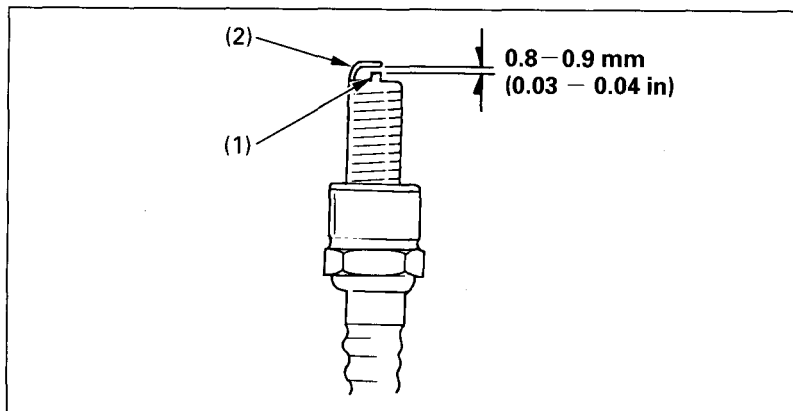

Fig. 4-16 (1) Center electrode (2) Side electrode
4. Visually inspect the spark plug electrodes for wear. The center electrode (Fig. 4-16) should have a flat tip and sharp edges, and the side electrode (2) should not be eroded. If the electrodes and insulator tip appear unusually fouled or burned, we suggest that you contact your authorized Honda dealer.